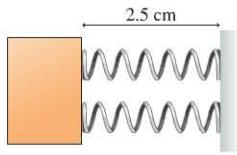

FIGURE P8.48
48. II Two springs have the same spring constant $k = 130 \text{ N/m}$ but different equilibrium lengths, 3.0 cm and 5.0 cm. They are arranged as shown in Figure P8.48, then a block is pushed against them, compressing both to a length of 2.5 cm. With what net force do they push back on the block?